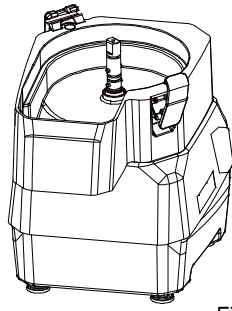

Fig. 2
4.4.3.2 Make sure the middle base is located onto bottom base properly and securely, as shown in Figure 2.